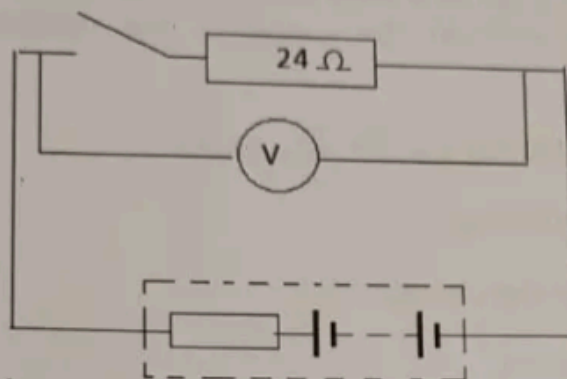

Fig Q7
6. Describe how the vapour compression refrigeration cycle achieves cooling. (8)
7. The circuit in Fig Q7 has a voltmeter as shown. When the switch is open the reading on the voltmeter is 30 V, when the switch is closed the voltage drops to 26.67 V.